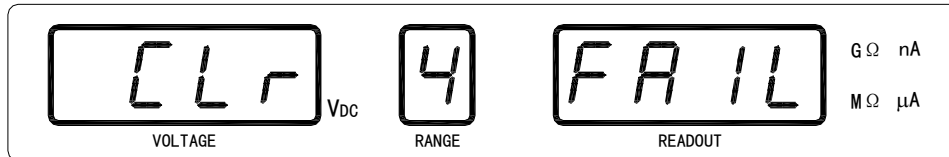

Figure 3-17 Open Correction Failed
- 6) The open correction fails when one of the open correction measurement value is more than 1 mV. "FAIL" message will be displayed for a second as shown in Figure 3-17. TH2683 returns back to the discharge status.